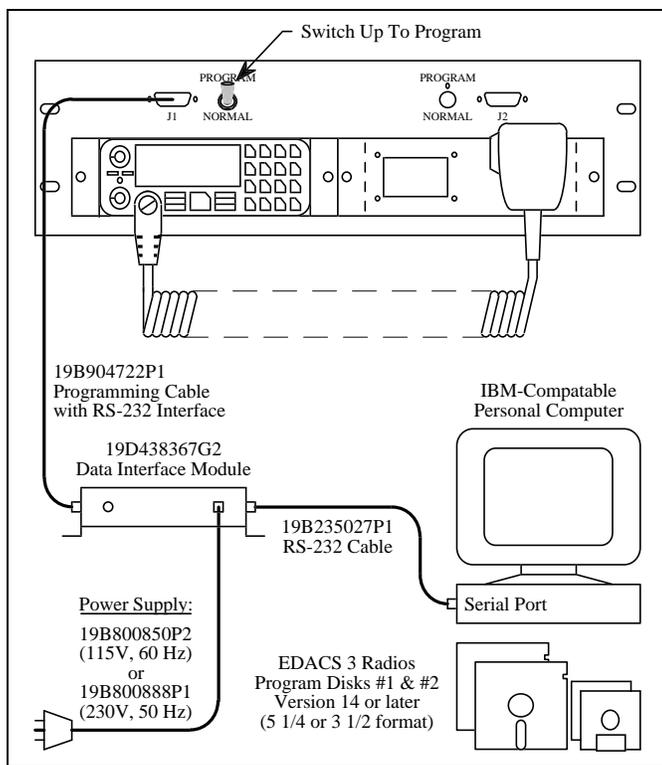

Figure 12 - Programming Setup
- Connect the radio programming equipment to J1 on the front of the Orion Radio Shelf as shown in Figure 12.
- Make sure that the message **PC PROG** is displayed on the front panel. If not, check to make sure that the programming equipment is connected as shown in Figure 12, and that the switch on the front of the Orion Radio Shelf is in the up or “PROGRAM” position. Then, try again to evoke the programming mode.